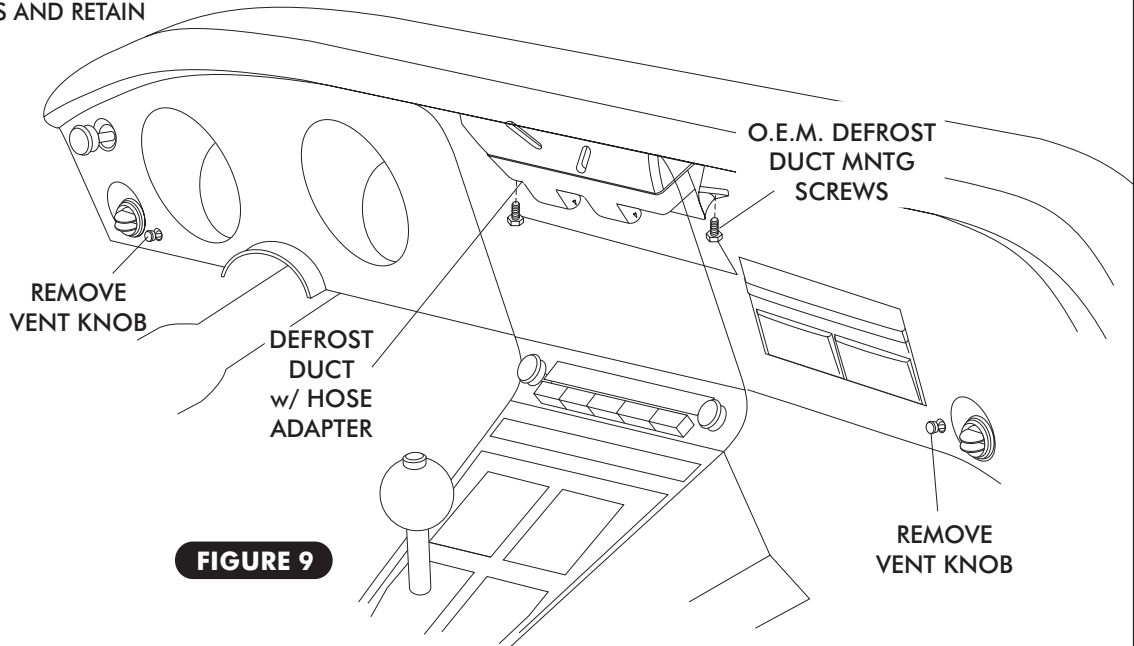

FIGURE 9
- USING THE O.E.M. DEFROST DUCT MOUNTING SCREWS INSTALL THE DEFROST DUCT WITH HOSE ADAPTER AS SHOWN IN FIGURE 9 BELOW.